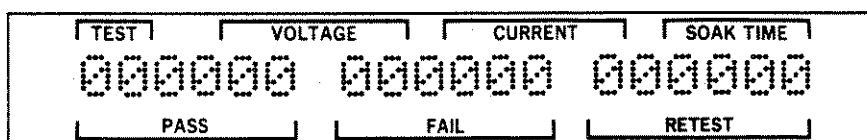

Figure 3-32. Bin Count Totals Screen
STEP 20. Press the DOWN pushbutton twice to display the Bin Count totals. Press the DOWN pushbutton again to display the Stress test conditions. Press the DOWN pushbutton five more times and notice that six screens (Stress test, Check test, Nominal Capacitance and Charge Rate, Presence Calibration, Printer Output, and Bin Count totals) are shown, one after the other. The last screen shown is the summary of Bin Count totals screen, as shown in Figure 3-32.